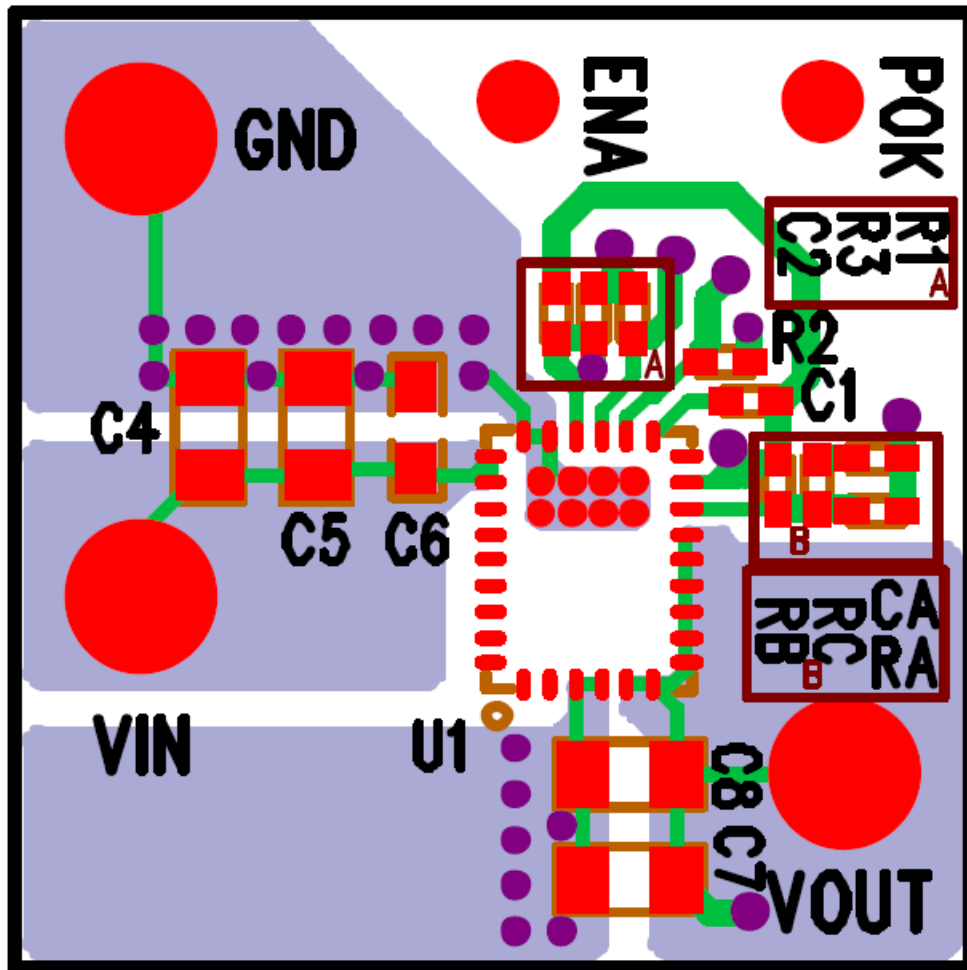

Figure 8: Drop-In Board Layout Recommendations
**Recommendation 3:** The large thermal pad underneath the component must be connected to the system ground plane through as many vias as possible. The drill diameter of the vias should be 0.33mm, and the vias must have at least 1 oz. copper plating on the inside wall, making the finished hole size around 0.20-0.26mm. Do not use thermal reliefs or spokes to connect the vias to the ground plane. This connection provides the path for heat dissipation from the converter. See Figure 8.
**Recommendation 4:** Multiple small vias (the same size as the thermal via discussed in recommendation 3) should be used to connect ground terminal of the input capacitor and output capacitors to the system ground plane. It is preferred to put these vias under the capacitors along the edge of the GND copper closest to the +V copper. Please see Figure 8. These vias connect the input/output filter capacitors to the GND plane, and
**Recommendation 6:** The layer 1 metal under the device must not be more than shown in Figure 8. See the section regarding exposed metal on bottom of package. As with any switch-mode DC-DC converter, try not to run sensitive signal or control lines underneath the converter package on other layers.